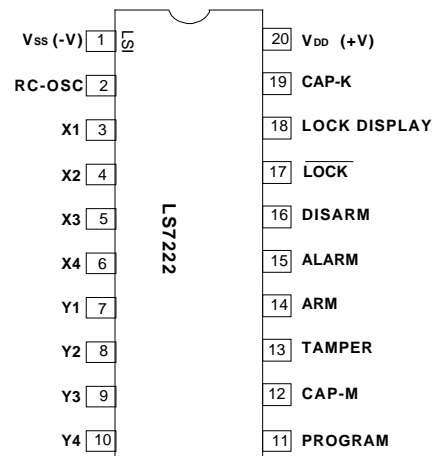

FIGURE 1
- LS7222 (DIP); LS7222-S (SOIC) - See Figure 1